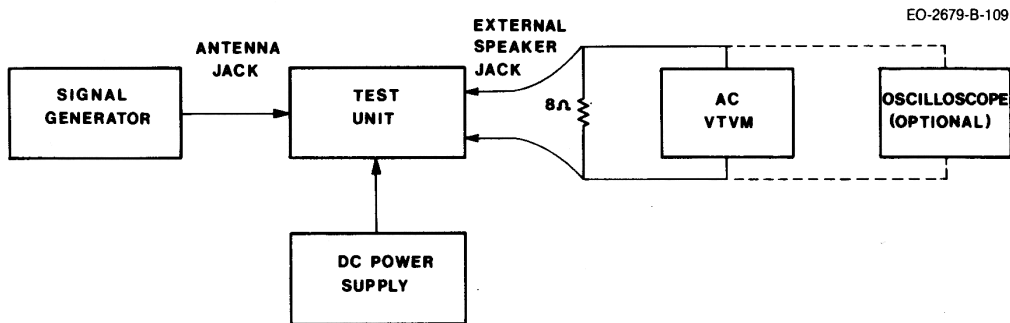

Figure 3-3. Equipment Set-up, CB Receiver Alignment
2. Connect the dummy load and frequency counter to the antenna jack as shown in figure 3-3.